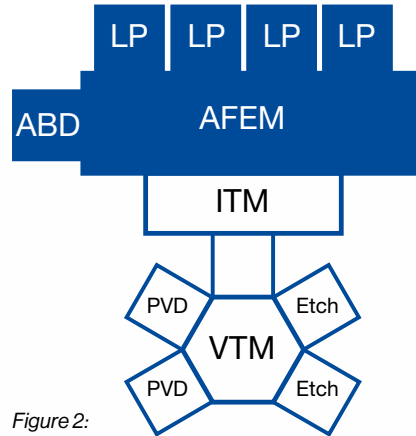

Figure 2:
market leading system for panel processing. Built around a central Vacuum Transfer Module (VTM), the tool can be equipped with up to 5 single process modules (SPM) for etch or deposition. An atmospheric front end module (AFEM) handles substrates in and out of FOUPS stationed on up to 6 Load Ports (LP). Pre-processing via Evatec's unique Atmospheric Batch Degasser (ABD) followed by two stage pumping brings substrates into vacuum in perfect condition for any etch and deposition processes. A typical configuration is shown in Figure 2.